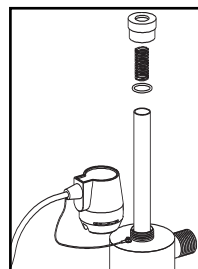

FIGURE 3B
- d) Carefully remove o-rings from the quartz sleeve (Figure 3B). As the o-ring may tend to adhere to the quartz sleeve, it is recommended to replace the o-rings annually.